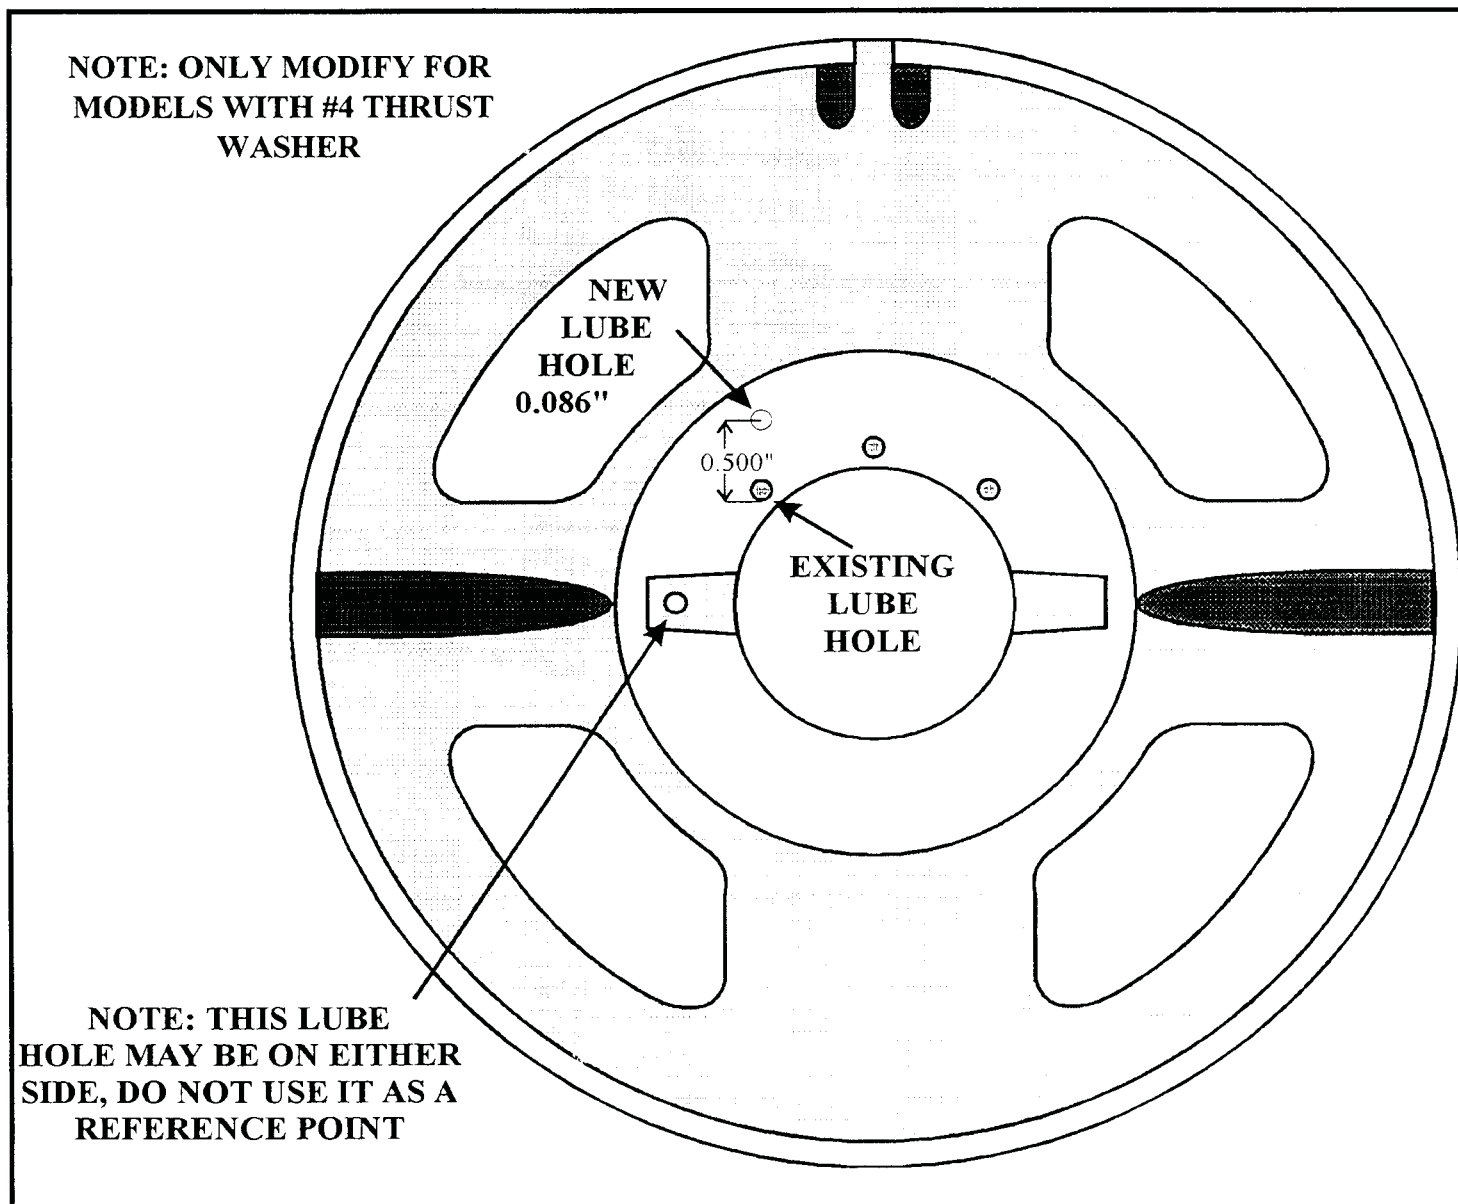

Figure 28
**CORRECTION:** Drill a new lube hole in the center support. Measure 0.500" up from the bottom of the existing hole, drill a 0.086" hole all the way through the center support (See Figure 28).